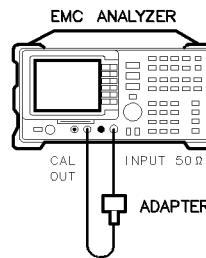

Figure 2-19. Uncertainty Test Setup
1. Connect the CAL OUT to the EMC analyzer input using the BNC cable and adapter, as shown in Figure 2-19.